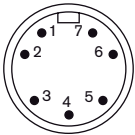
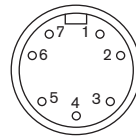

Abb. 5: X18: Input measurement transducer (male; view to the measurement transducer)
Abb. 6: X19: Output measurement transducer (female; view to the measurement transducer)
Each measurement transducer has in each case an interface for the transducer input (see fig. 5 on page 137) and the transducer output (see fig. 6 on page 137).
- 3 Transducer input: Interface X18 (fig. 5 on page 137)
- 4 Transducer output: Interface X19 (fig. 6 on page 137)